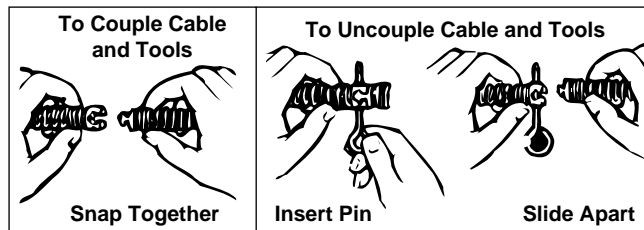

Figure 1 – Coupling and Uncoupling Cable Tools
**NOTE! The Speed Coupler (Figure 1) is the easiest method of changing tools and cables. Speed Couplers can be added to all existing tools and cables.**